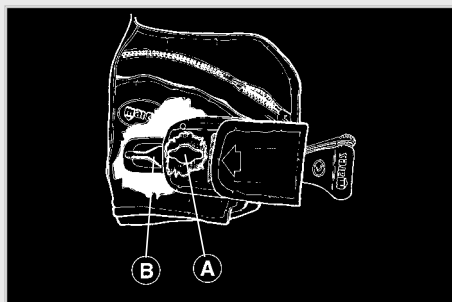

Fig. 10
- 3) Place the MRS compartment inside the special pocket in the BC, making sure that the fastener of slider A engages the seat B (Fig. 10).